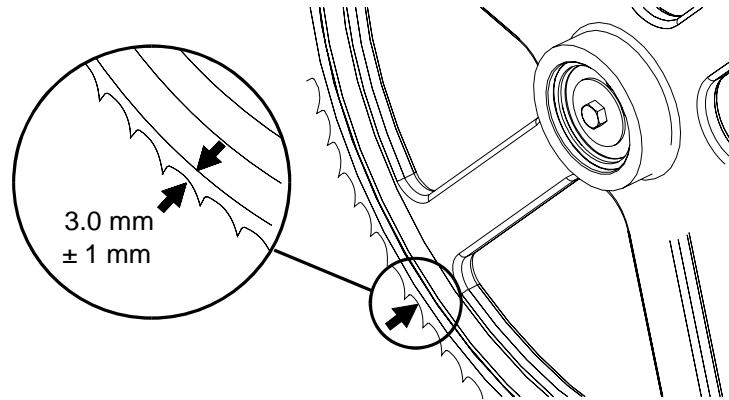

FIG. 6-16
**See Figure 6-16.** The blade wheels should be adjusted so that the gullet of 1 1/4" blades rides 3.0 mm (0.12") out from the front edge of the wheels ( $\pm 1.0$  mm / (0.04")).